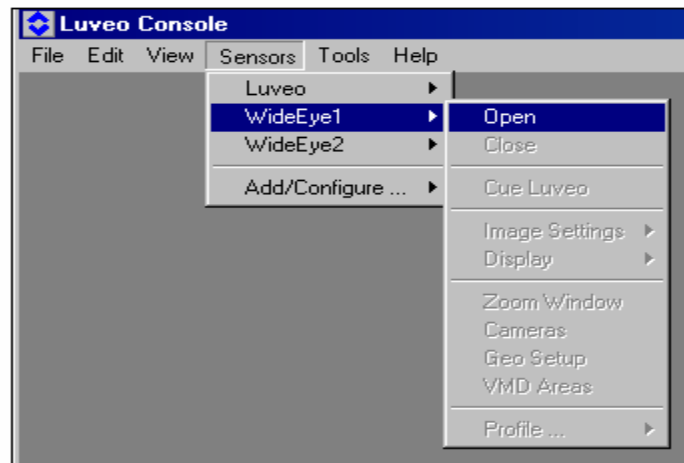

Figure 9 – Opening WideEye
1. From the Luveo top toolbar, select **Sensors, WideEye1, Open**. See Figure 9 – Opening WideEye.